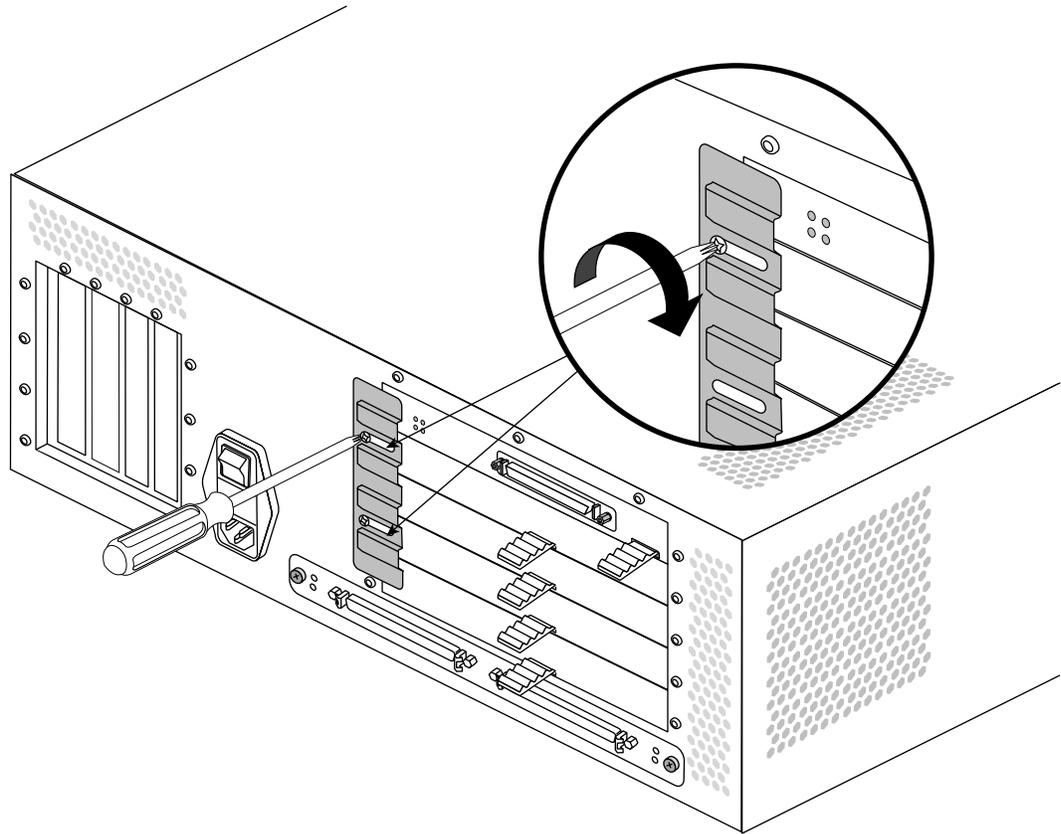

Figure 2-19 Tightening the XIO Retaining Plate Screws
7. Tighten the screws on the XIO board retaining plate, as shown in Figure 2-19.